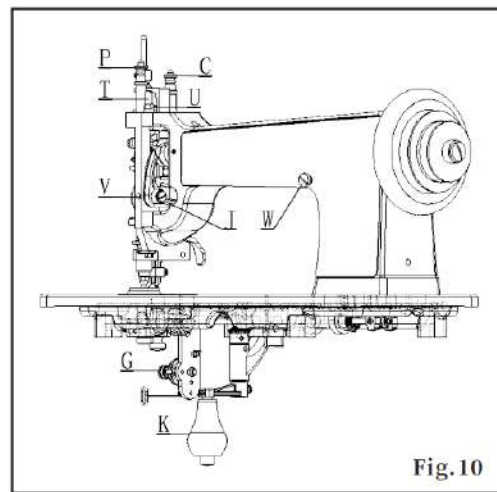

Fig.10
(6)The presser foot pressure adjustment (Fig10)
The pressure on the presser foot is regulated by the thumb screw **C**(Fig.10). To increase the pressure ,turn the thump screw over to the right or downward. To decrease the pressure , turn the screw over to the left or upward .
To raise the presser foot, insert a screw driver in hole **V**(Fig. 10) and loosen the set screw there in. The eccentric adjusting stud **J** can then be turned, so that presser foot can be set at the desired height; then tighten the set screw in hole **V**.
(7).The thread tension adjustment(Fig.10)
The tension on the thread is regulated by the thumb nut **G** (Fig.10), at the left of the tension discs. To increase the tension turn this nut over toward you . To decrease the tension turn this thumb nut over from you . This tension should be only tight enough to prevent the skipping of stitches .
(8).To adjust the length of the stitch(Fig.10)
The length of stitch is adjusted by screw **T**(Fig.10). To lengthen the stitch, loosen locking lever **U** and turn screw **T** over to the left or upward ,then tighten locking lever **U** .